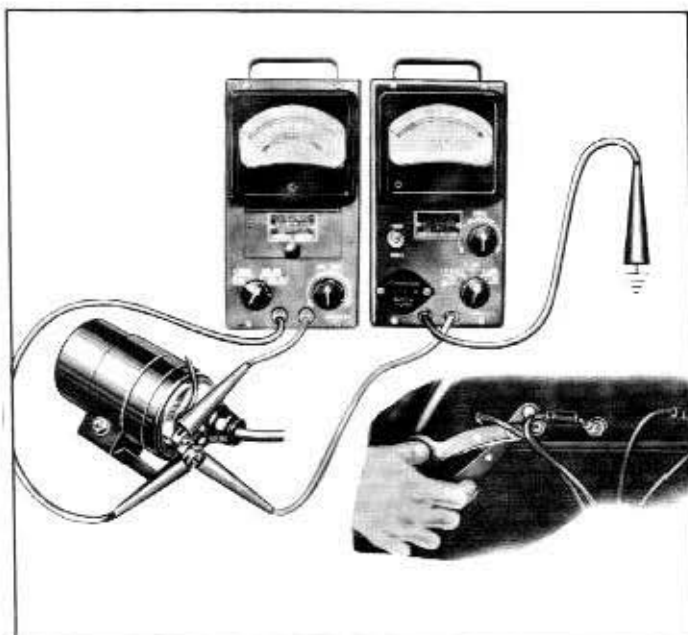

Fig. 9-51—Ignition Coil and Secondary Insulation Tests—(60C-7708)
3. Connect leads of Tach-Dwell unit as shown in figure 9-51. Connect black lead to a good engine ground, red lead to the ignition coil DIST. terminal.
4. Connect the leads of the Ignition Test unit as shown in figure 9-51. Connect black lead to ignition coil DIST. terminal, red lead to ignition coil BAT. terminal.